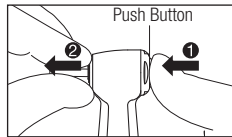

Fig. 3
Depress the Push Button to open the chuck (1) and remove the bur (2). (Fig.3)